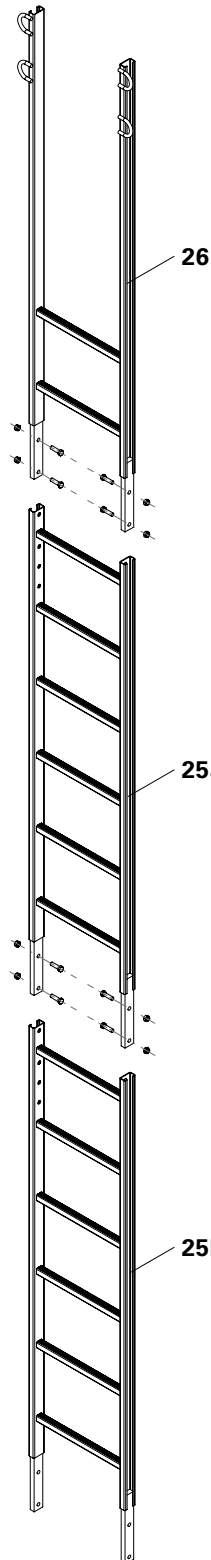

Fig. B2.01
2. Connect both ladders with Bolts and Nuts M12 x 40. (Fig. B2.01)